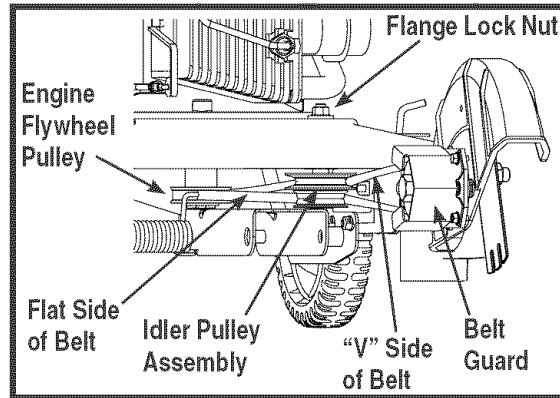

Figure 10
1. Working in front of the edger, loosen the flange lock nut on top of frame, allowing the idler pulley assembly to pivot slightly out from the frame. See Figure 10.
**IMPORTANT:** To aid in reassembly, note the orientation of the drive belt on the two idler pulleys and the engine flywheel pulley prior to performing the following steps. Refer to Figure 10.
3. Remove the spindle sheaves belt guard by removing the two self-tapping screws which secure it to the blade plate assembly. See Figure 10.